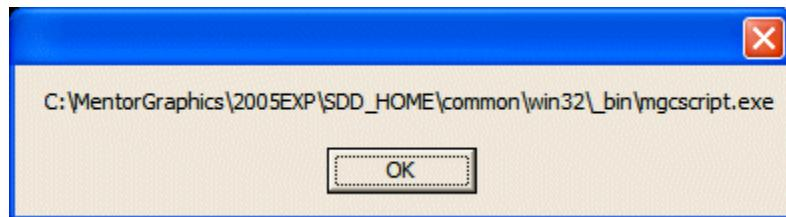

Figure 8-10. Displaying the first argument.
- 2) Press the <Enter> key to execute this command and run the *DisplayArguments.vbs* script. The first argument immediately appears in a *MsgBox()* as illustrated in Figure 8-10 [observe that the full path name for this file is presented in the *MsgBox()*].